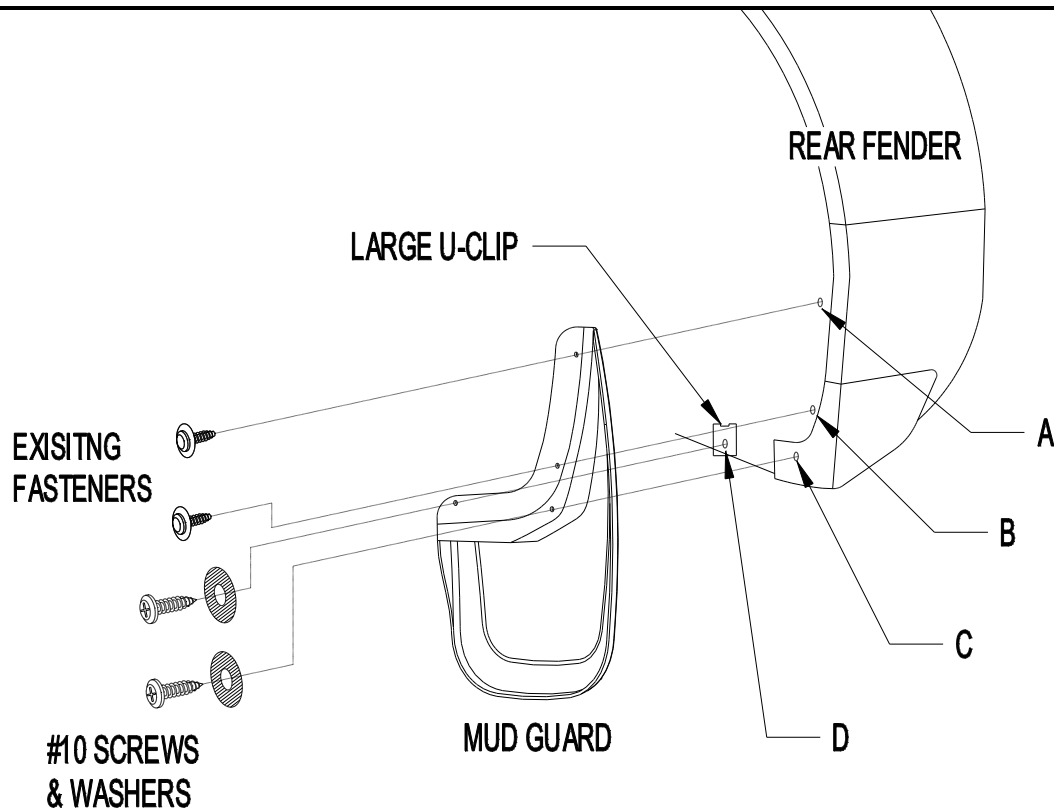

Figure 1
1. Remove the existing fasteners from locations A and B (Figure 1).
4. Install a #10 Screw and Fender Washer at location C (Figure 1).